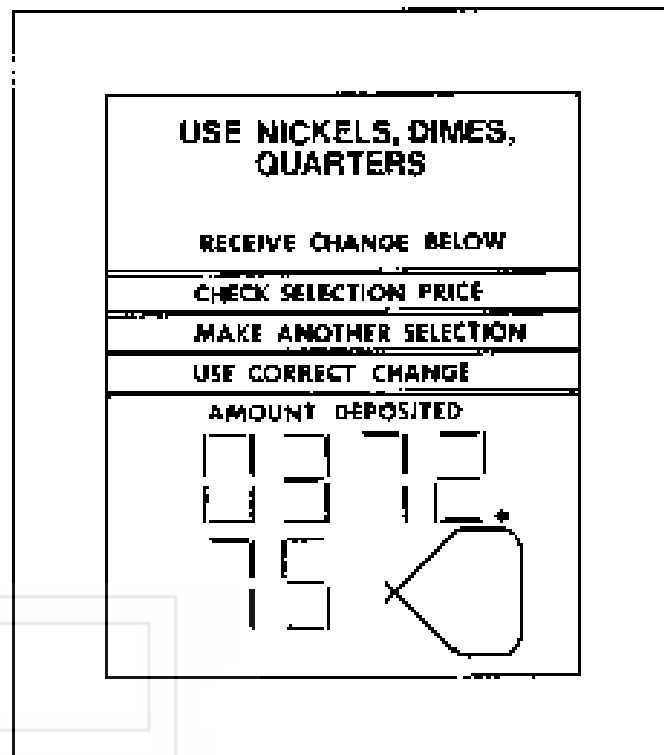

Figure 18. SHOWING \$372.75
- B. Press the error and then the number for the first selection to be checked. The display will show the price and product code that selection is programmed for (Figure 18). Check the displayed price against the price tab on the shelf for that selection.
- B. Press button 14 on the selection panel and the total dollars vended by the machine will be displayed (Figure 18).
- C. To display number of vends by any product code. For example, enter the product code (63) then the letter C. The number of vends and the product code will be displayed. Repeat until all desired information has been displayed and recorded.